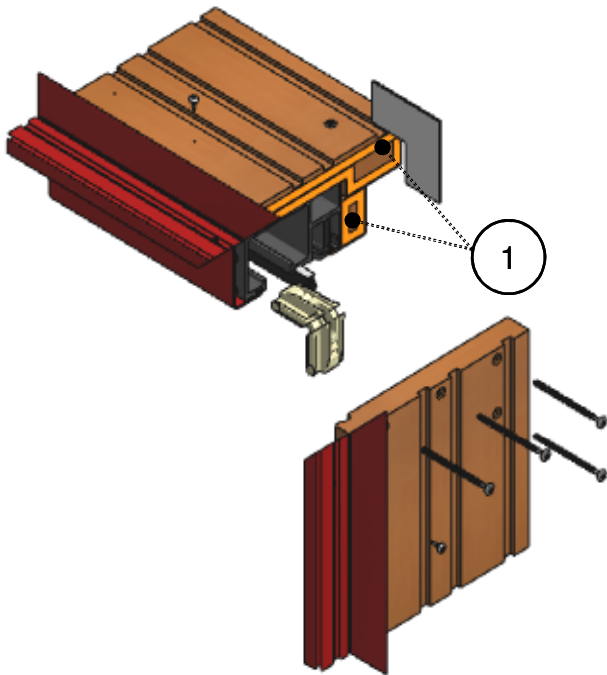

Figure 1
- 1) Apply continuous 5mm bead of Dymonic FC on the head. (Figure 1)